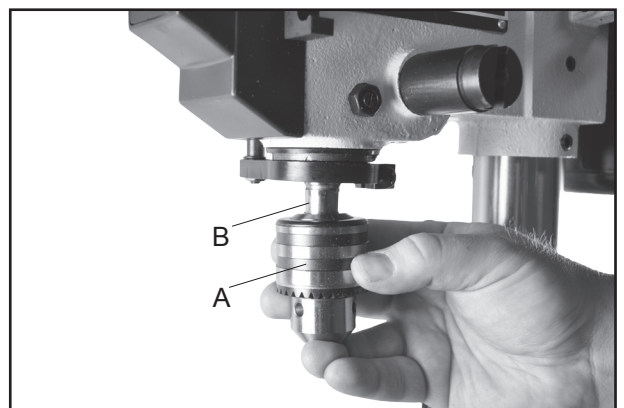

Fig.05
5. Next, slide the 1/2" chuck (A-Fig.05) over the pre-installed spindle (B-Fig.05). Open the chuck jaws fully and tap into place using a rubber mallet or a hammer and block of wood.